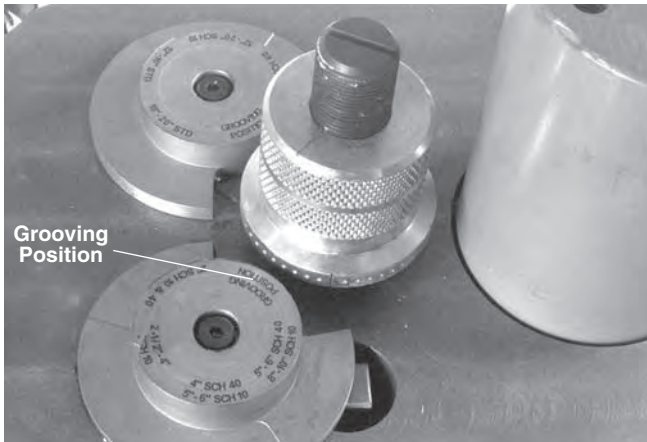

Figure 16
4. Back-off adjusting nut slightly and turn gauge to the grooving position. (Figure 16)